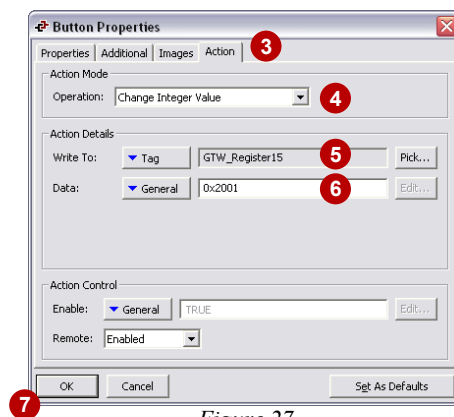

Figure 27
3. Click on the Action tab (Figure 27)